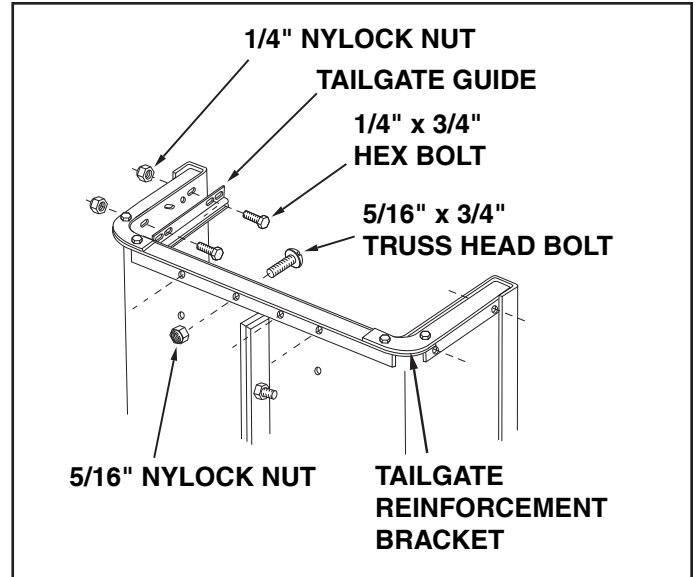

FIGURE 2
5. Position the tailgate reinforcement bracket on outside of cart as shown in figure 2. Assemble to the bottom of the cart body using four 5/16" x 3/4" truss head bolts and 5/16" nylock nuts. **Do not tighten.** See figure 2.
6. Position the tailgate guides on the inside of the cart bodies with guide channels to the front as shown in figure 2. Assemble using four 1/4" x 3/4" hex bolts and 1/4" nylock nuts. **Do not tighten.**